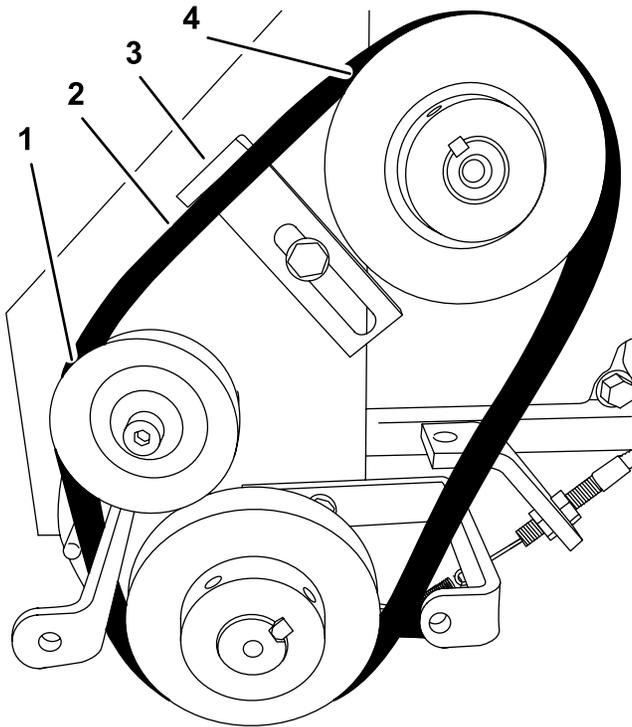

Figure 23
3. Slip the belt off the belt-tension pulley (Figure 23).
4. Slip the belt off the gearbox pulley (Figure 23).
5. Slip the belt off the engine pulley and remove the belt (Figure 23).
2. Align the belt over the engine pulley (Figure 23).
3. Align the belt over the gearbox pulley (Figure 23).
4. Slip the belt over the belt-tension pulley (Figure 23).